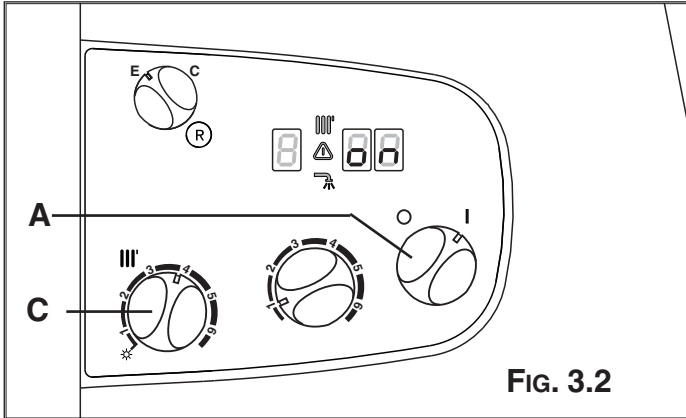

FIG. 3.2
- Supply power to the boiler by turning the On/Off knob "A" (see Fig. 3.2) - on the display will appear "on". Turn the knob "C" to maximum and switch the time clock to constant. After 7 seconds, the boiler will signal a shutdown due to ignition failure. Leave the boiler as it is until all of the air has been bled from the system.